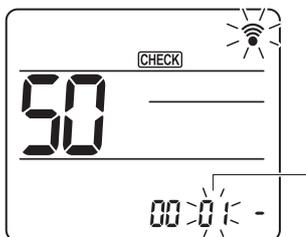

Fig. 7-19
- ③ Select a mode
Press the <math>\downarrow</math> button to set Mode number ②. (Fig. 7-19)